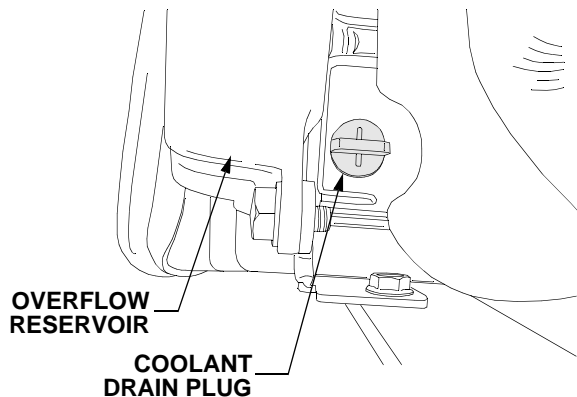

Figure 51
- Locate the radiator drain plug in the lower left rear corner of the radiator. See Figure 51.